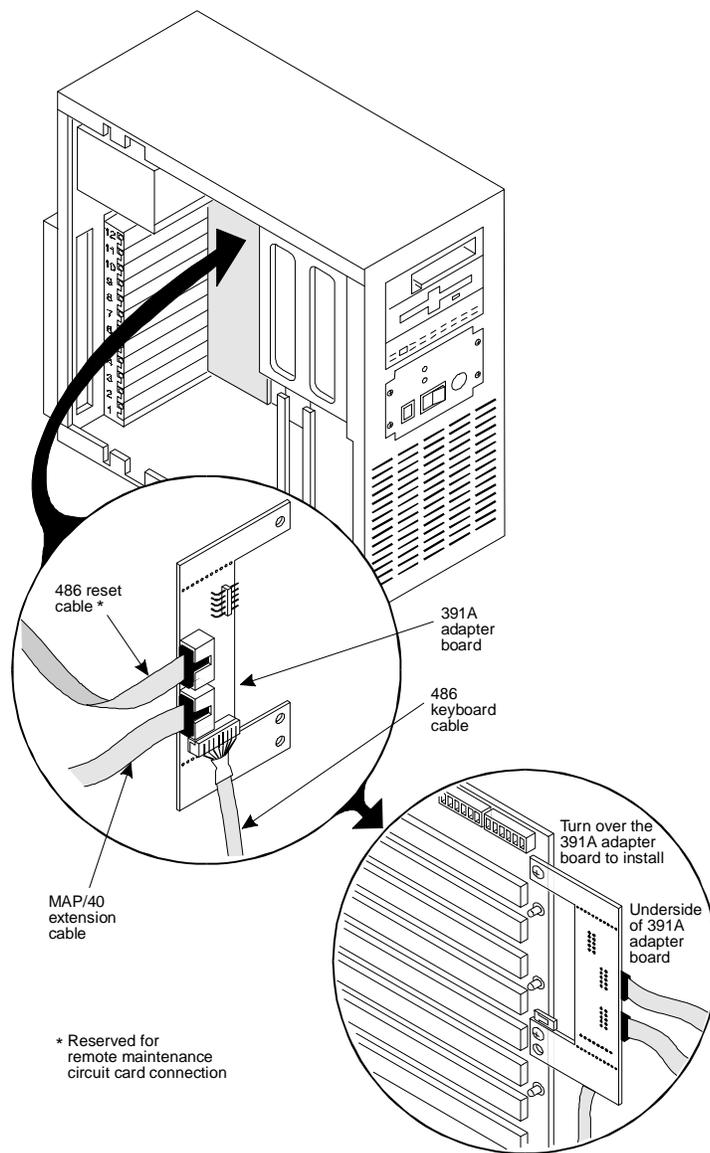
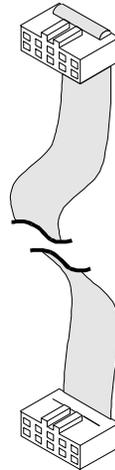

Figure 9-29. CPU/Remote Maintenance Circuit Card Keyboard Adapter Installed in the MAP/40
Figure 9-30. MAP/40 Remote Maintenance Circuit Card Reset Cable
1. Locate the CPU/Remote Maintenance circuit card keyboard adapter (391A adapter) in the MAP/40 (see Figure 9-29).
2. Locate the reset cable (Figure 9-30) that is connected to the CPU/Remote Maintenance circuit card keyboard adapter. The reset cable is on the right side behind all the circuit cards (if you are viewing the MAP/40 from the front as shown in Figure 9-29).